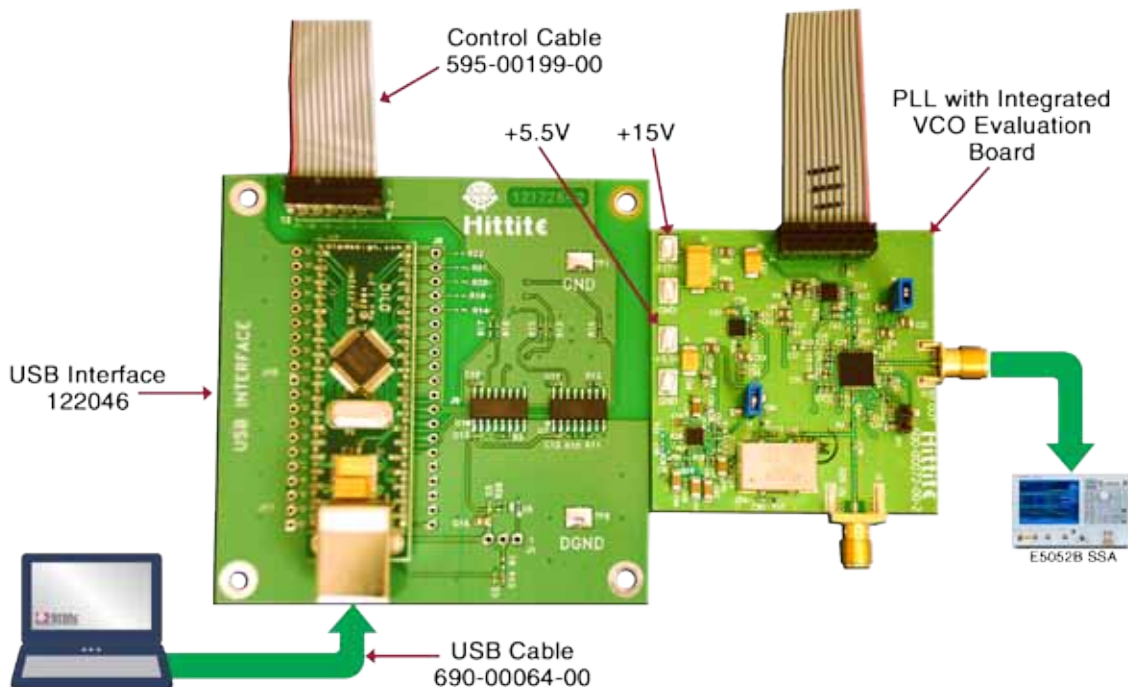

Figure 1. Typical Setup of Synthesizer evaluation Board
The evaluation board of Hittite fractional synthesizer with integrated VCO should be set up as shown in the Figure 1. It should be noted that very low noise synthesizers are sensitive to noisy power supplies. The evaluation board provides on-board regulators to isolate the +5.5V supply from the PLL analog and digital +3.3V supplies, the PLL Charge Pump +5V supply and the VCO +5V supply. The VCXO is also regulated separately to +3.3V from the +5.5V external supply.
Step 1. Setup the evaluation board as shown in Figure 1